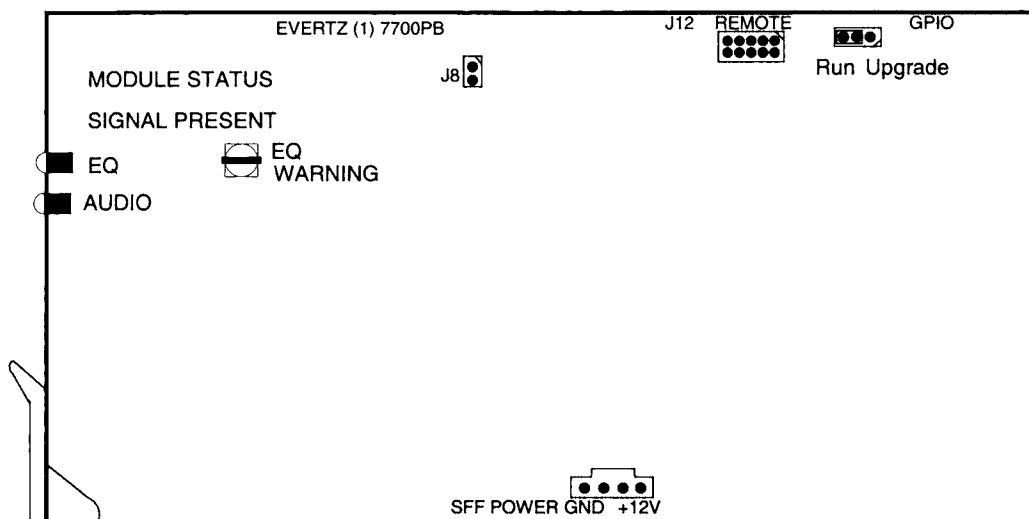

Figure 1 : Location of UPGRADE Jumper on Rev 1 7700PB Boards
2. Connect the 7700PB Rev 1 Serial Upgrade cable to the 2 row x 5 pin header labelled J12 on the top edge of the 7700PB board as shown in Figure 1. The cable has a key installed so that it cannot be installed backwards.
3. Move the jumper, located on the end of the GPIO header to the UPGRADE position as shown in Figure 1.